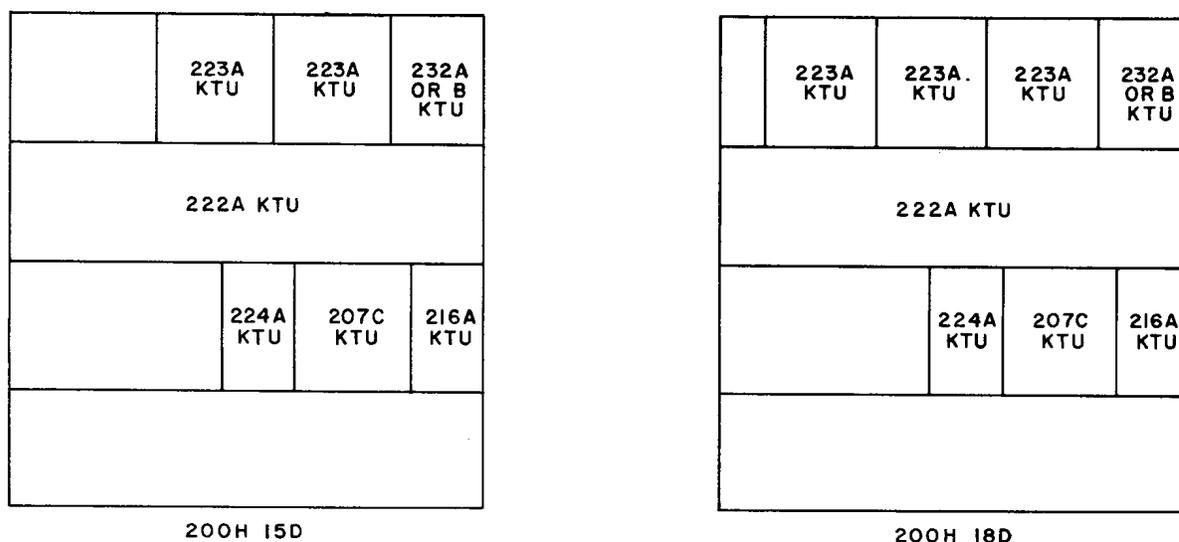

Fig. 2 – Block Diagram
2.03 Fig. 2 shows the arrangement, coding (without cable terminal), and key telephone units used in the 200H-type KTU.